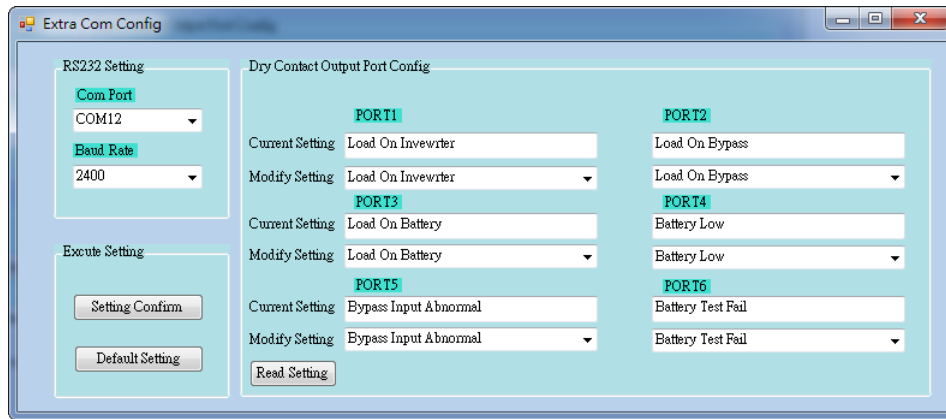

Figure 5-20
Step 2: Start Extra Com Config software tool in your computer. Then, it will pop up a screen as Figure 5-20.